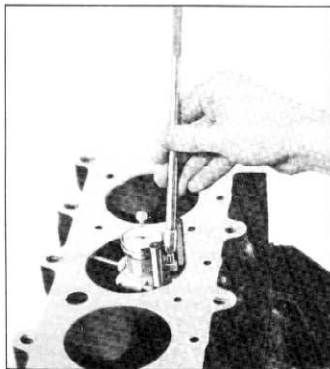

Fig. 43—Checking Cylinder Bore with Dial Gauge
7. Check the cylinder walls for taper, out-of-round or excessive ridge at top of ring travel. This should be done with a dial indicator (fig. 43). Set the gauge so that the